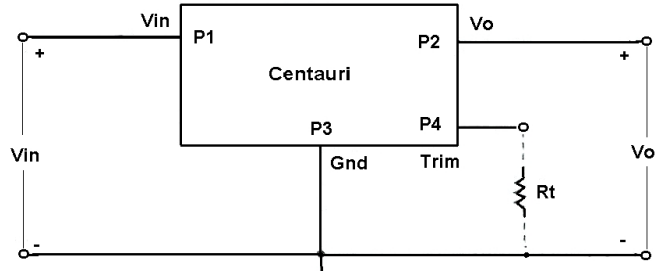

Figure 4. Output Voltage Trim Setup.
To adjust  $V_o$  to a higher value, please refer to Figure 4. The required resistor value ( $R_t$ ) can be determined through Equation (1) where  $V_o$  is the voltage on P2 before the adjustment and  $V_{ot}$  is the voltage of P2 after  $R_t$  is connected.